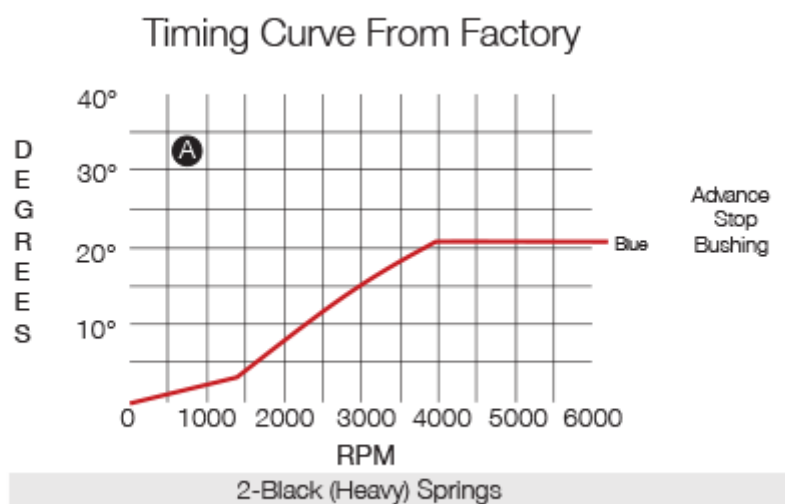

Figure 1
- 2). The EI Rayo distributors are equipped with two Black Heavy springs installed to give the slowest advance curve possible. (Figure 1)